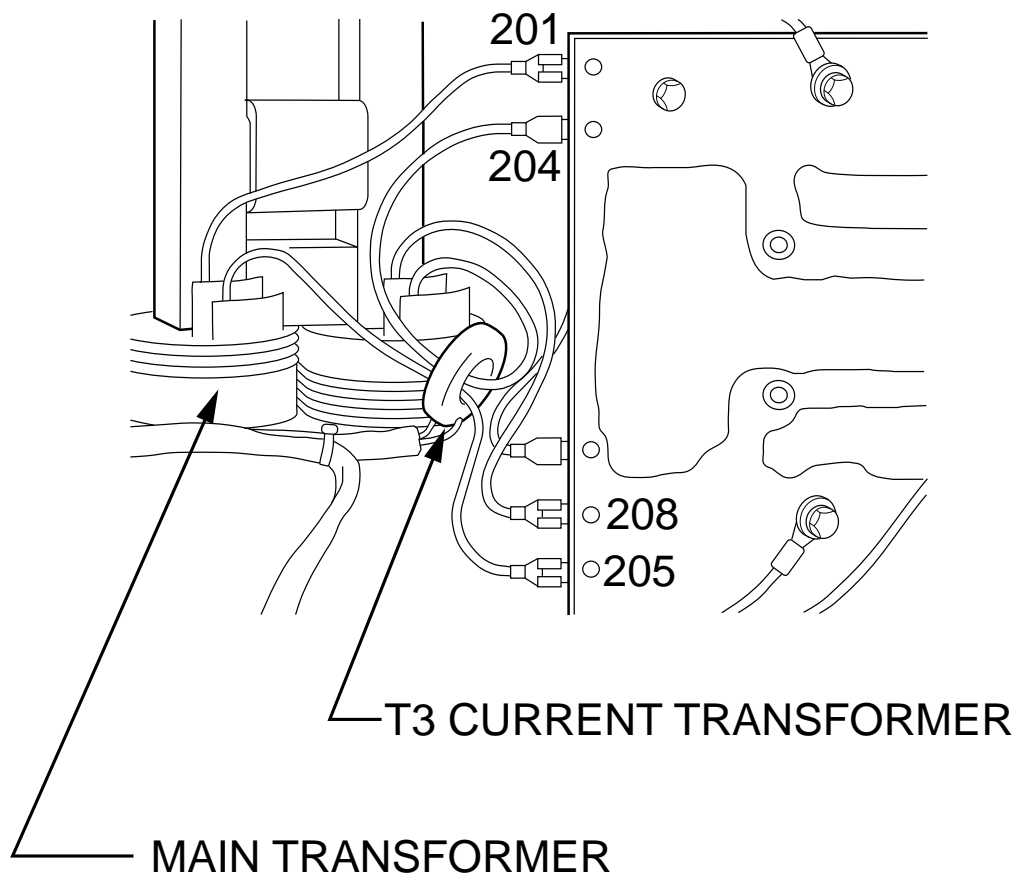

Figure F.20 Main Transformer Right Side
3. Locate main transformer and associated primary leads. See Figure F.20.